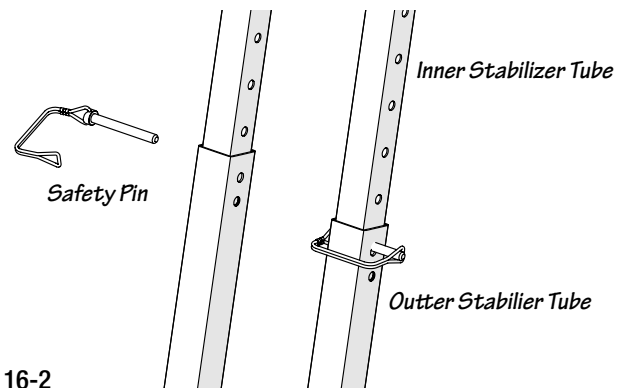

Fig. 16-2
8. Remove the safety pins from the support braces. As shown in Fig.16-2. Slide the lower support tube out from the whole brace support post.